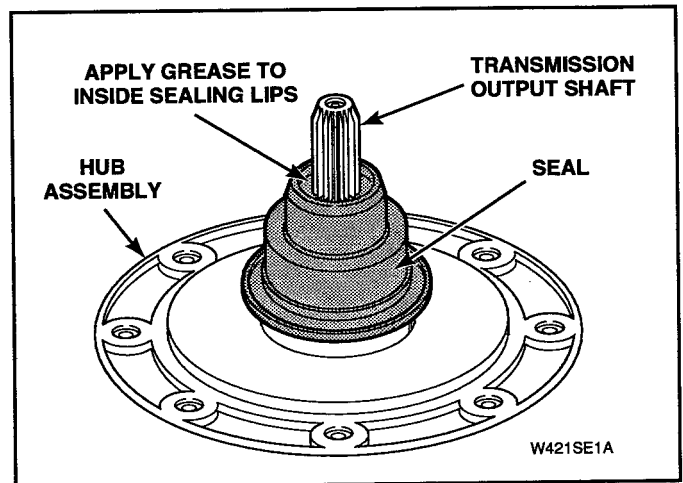

Figure 5-13
- Lubricate new seal with liquid soap or soapy water to aid in assembly of seal onto hub. See Figure 5-13.
- Apply a small amount of supplied grease, No. 36765P, to inside sealing lips of seal. See Figure 5-13.
**NOTE:** Top edge of front panel is held in place by two spring clips located on bottom flange of cabinet top. See Figure 5-13.